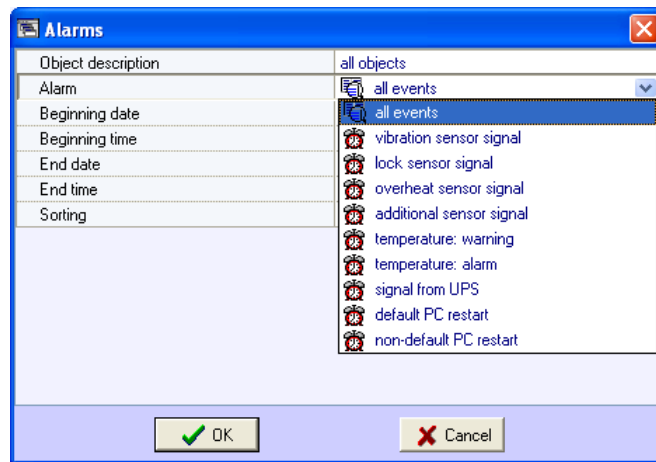

Fig. 7.3—4 Alarm event selection
4. Sorting (Fig. 7.3—5). A report can be sorted in one of two ways: